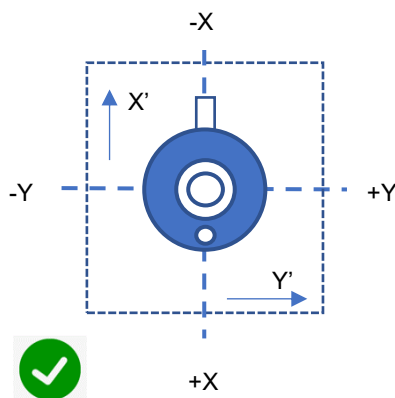
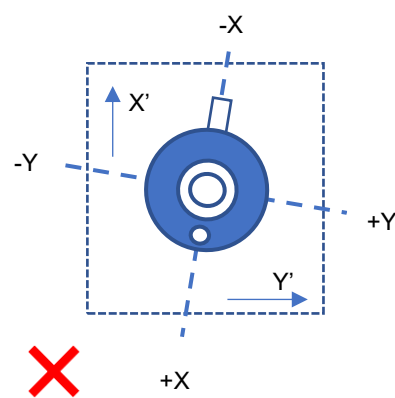

Figure 5-2B Tilt and roll angle corresponding to reference plane
Figure 5-2C Tilt and roll angle not corresponding to reference plane
For setup at inclined plane: Setup the UV radiometer with signal cable aligned with the installation platform (X', Y'), see figure 5-2B. When the sensor is not aligned, the tilt (X) and roll (Y) measurement does not reflect the angle X' and Y', see figure 5-2C.